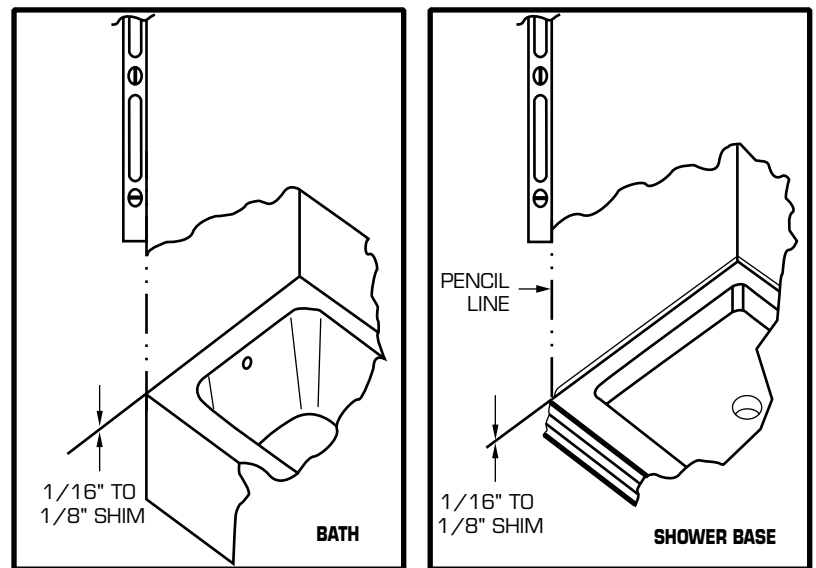

FIG. 2
3. Draw a vertical line from the top corner of the bath or shower base using a level to 1" below the ceiling. See Fig. 2 & 3.